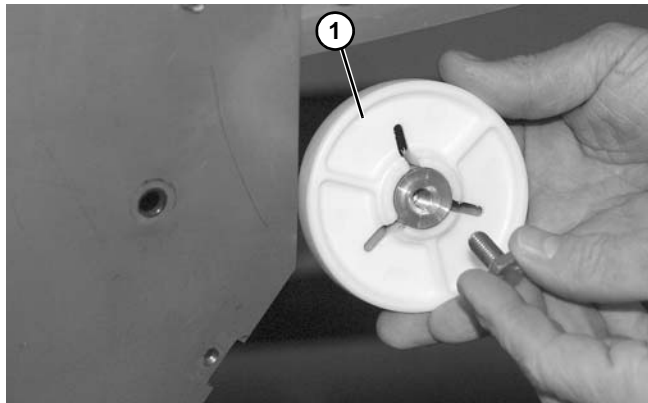
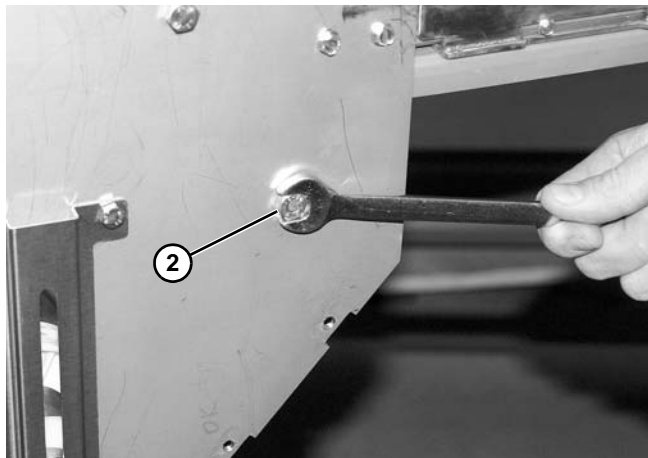

Figure 97
Figure 98
1. Install puck (Figure 98, item 1) with hex head screw (Figure 97, item 2). Repeat on opposite side.